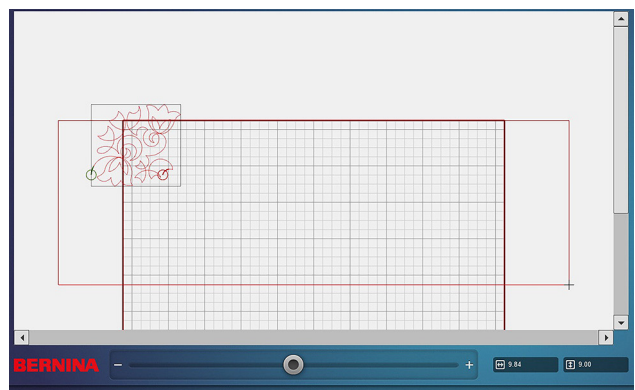

Fig. 47
6. Move the design to the upper left corner of the grid, letting it extend beyond the top and left boundaries of the grid (Fig. 47).